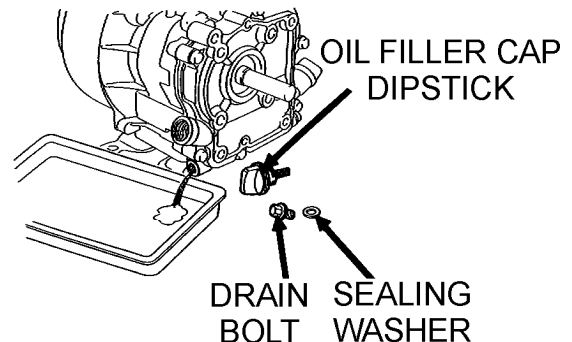

Figure 29. Draining Engine Oil
2. Drain the engine oil when the oil is warm as shown in Figure 29.